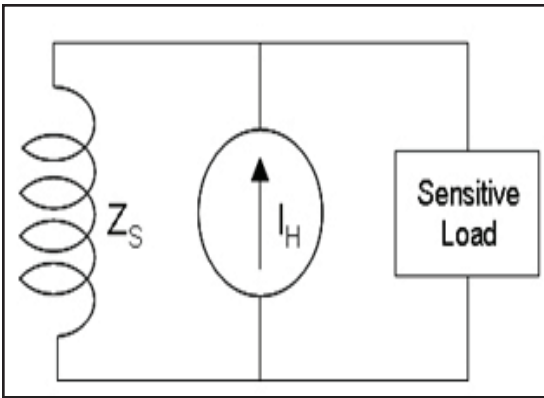

Figure 11: Simplified Network Representation at 5th Harmony
Due to superposition, the network is represented at the 5th harmonic differently than in the fundamental (Figure 11). The load functions as current source (IH). Normally, the network equivalent impedance (Zs = ZSOURCE = utility network plus transformer) is the lowest, and the harmonic current flows to the utility network which can withstand the